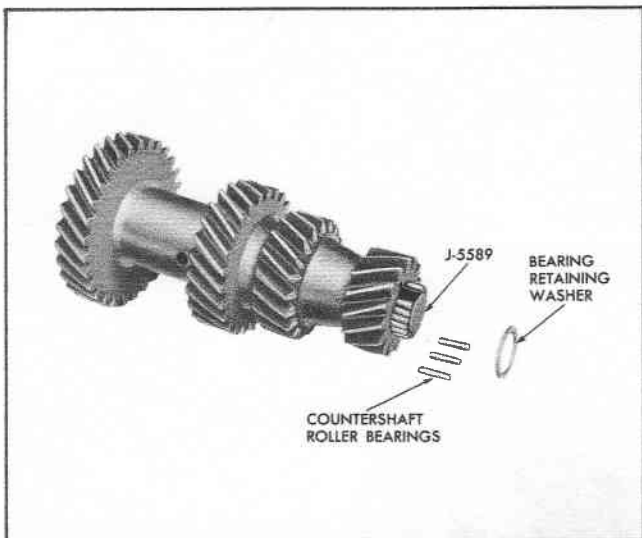

Fig. 9 Bearing Loader Positioned in Countergear
10. Drive countershaft all the way out and leave tool J-5589 in the countershaft gear to retain the roller bearings (Fig. 9).